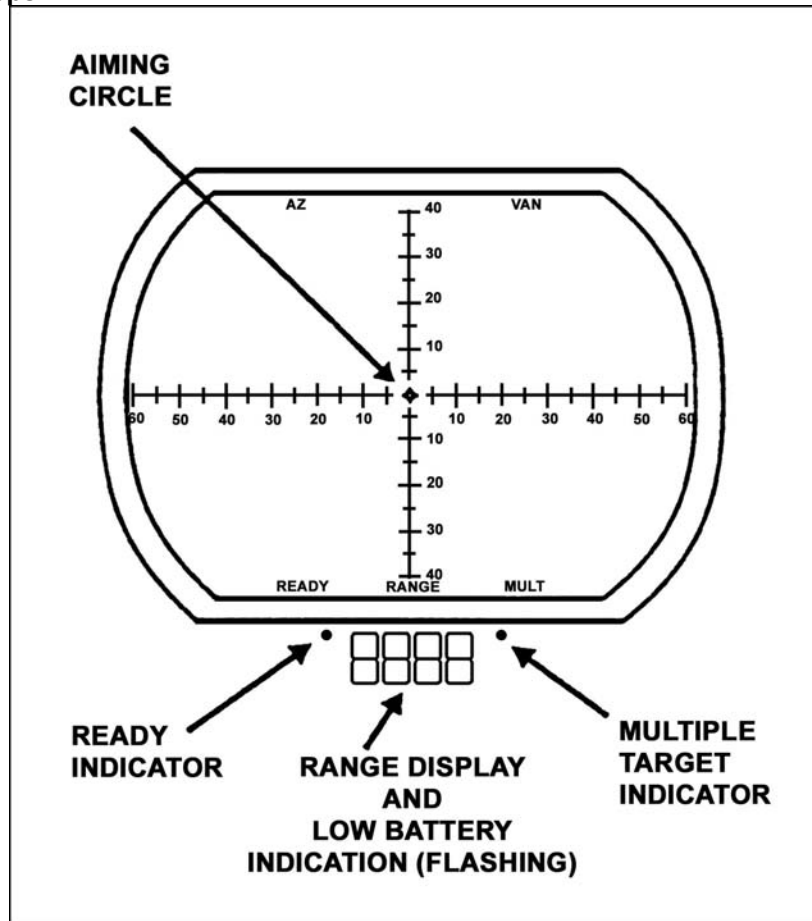

Figure 5. Eyepiece display.
- (1) Place the neck strap around your neck.
- (2) Pull and turn the mode switch to the test position.
- (3) Press and release the charge switch.
- (4) Observe the display through the eyepiece lens to ensure all the elements and indicators are lit. Perform troubleshooting procedures for any indicators that are not lit (Figure 5).
- (2) Read "Range" at bottom of display (Figure 5).
- (3) Release fire switch.